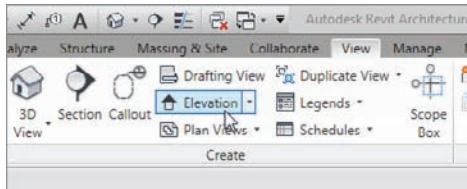

FIGURE 3.77 The Elevation button on the View tab
1. On the View tab, click the Elevation button, as shown in Figure 3.77.